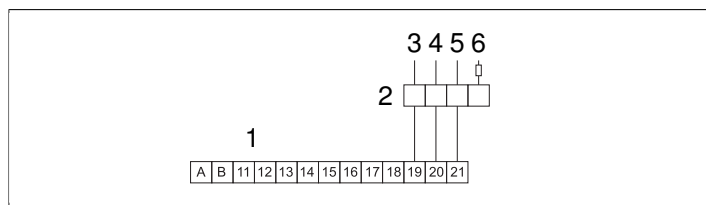

**Figure 17:** Wiring diagram for external ON/OFF switch
Connect the switch using low voltage wire (see **Figure 17**, Page 7 pos 4).